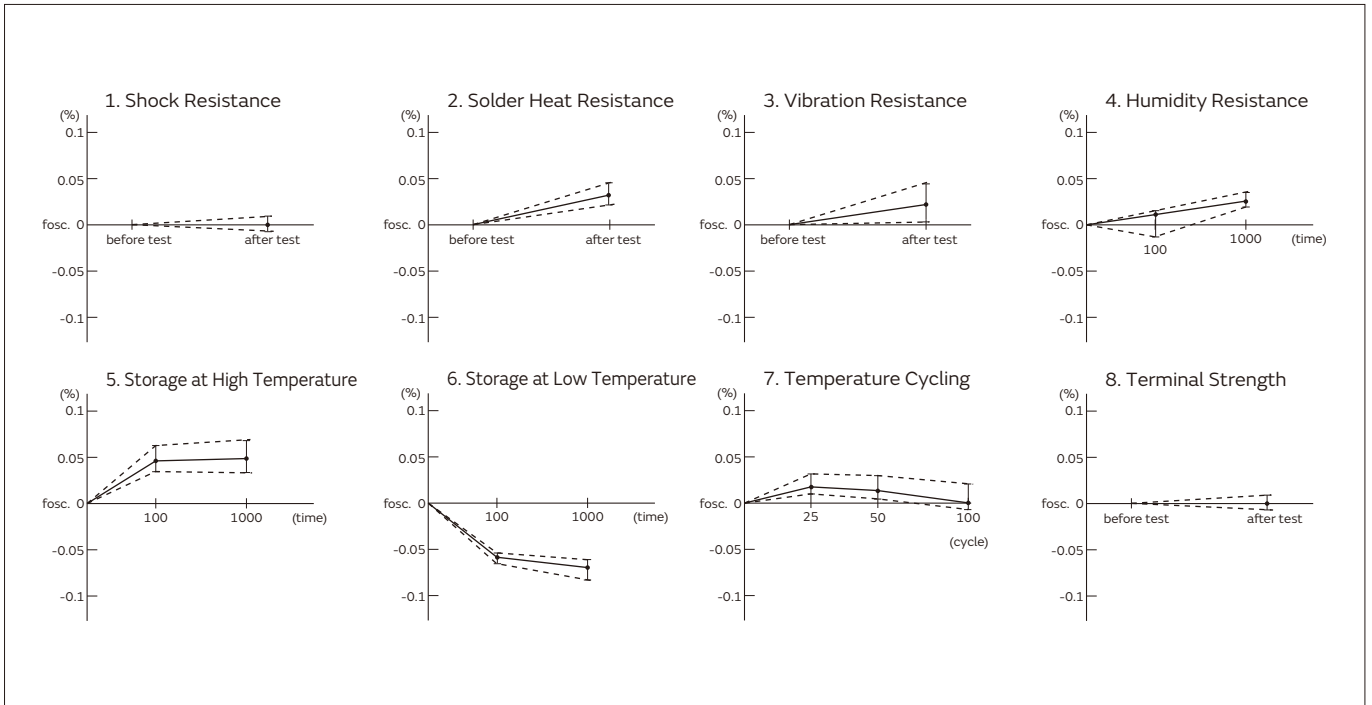
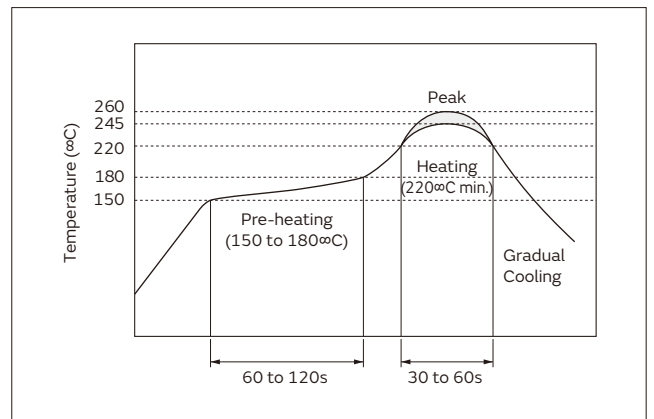

Fig. 3-2 General Changes of Oscillation Frequency in Each Reliability Test (CSTLS4M00G53-B0)
Fig. 3-3 Reflow Soldering Profile for MHz Band Chip CERALOCK®
Fig. 3-2 shows the changes of oscillation frequency in each test, the table on the next page shows the criteria after the tests, and Fig. 3-3 shows the reflow soldering profile.
2. Soldering Heat Resistance	Lead terminals are immersed up to 2.0 mm from the resonator's body in solder bath of [c], and then the resonator shall be measured after being placed in natural condition for 1 hour.*1 Reflow profile show in Fig. 3-3 of heat stress is applied to the resonator, then the resonator shall be measured after being placed in natural condition for 1 hour.*2